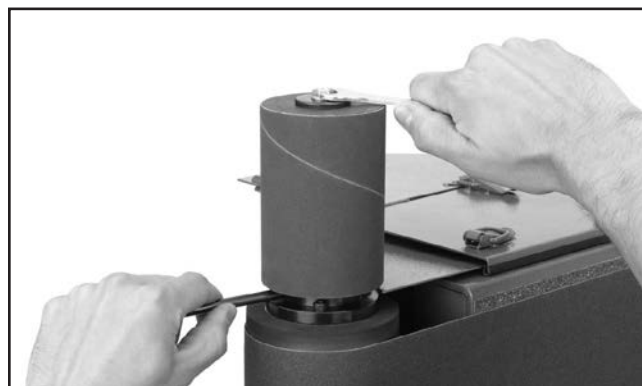

Figure 20. Using included rod to anchor spindle.
6. Insert rod into hole in base of spindle to anchor it, and tighten hex bolt, as shown in **Figure 20**.